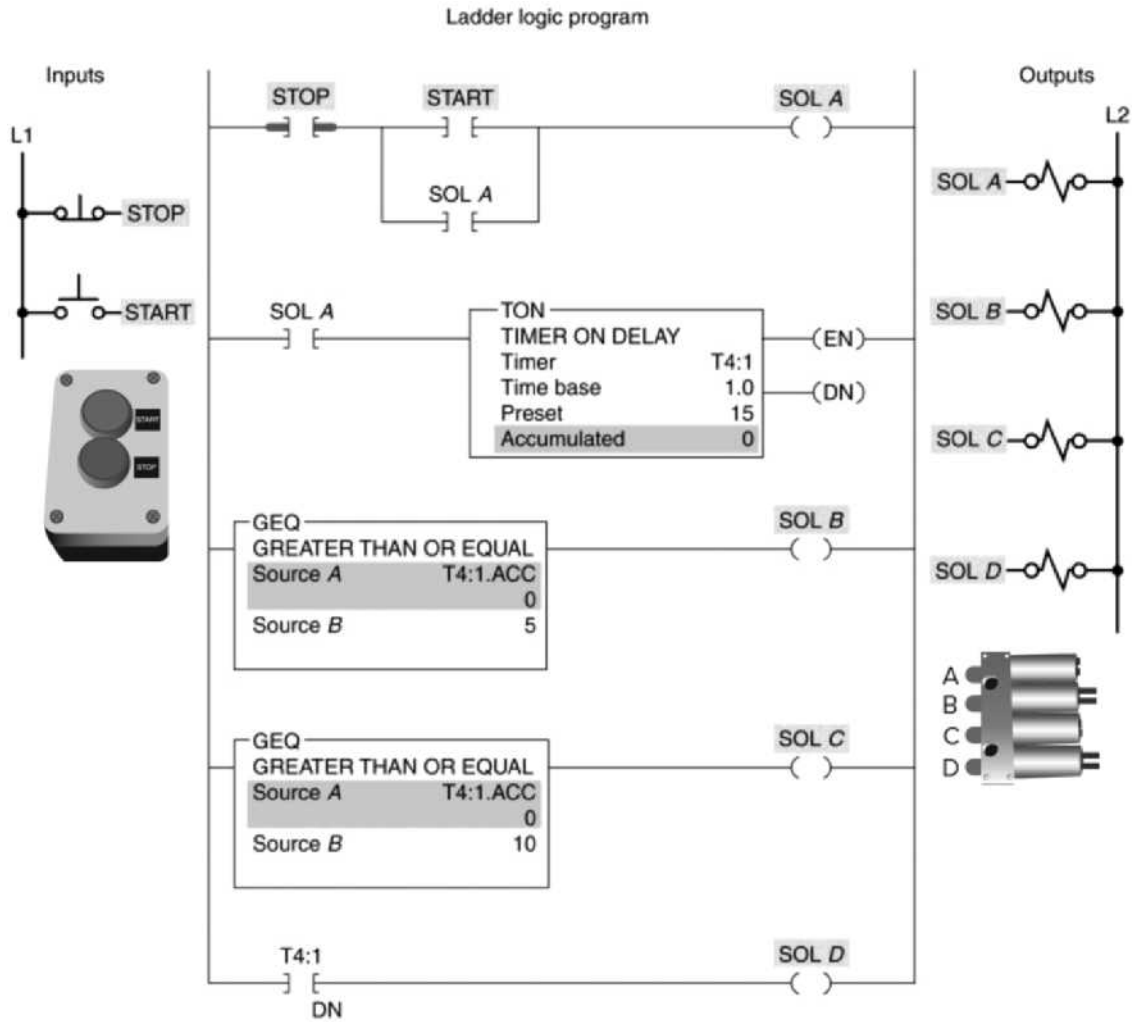

Figure 10-28 Timer program for assignment 4.
4) A timer program controlling multiple loads using a single timer and the GEQ instruction is shown in Figure 10-28 and described in the text. Prepare an I/O connection diagram and ladder logic program that will simulate its operation. Use addresses that apply to your PLC installation. Enter the program into the PLC, and verify its operation.